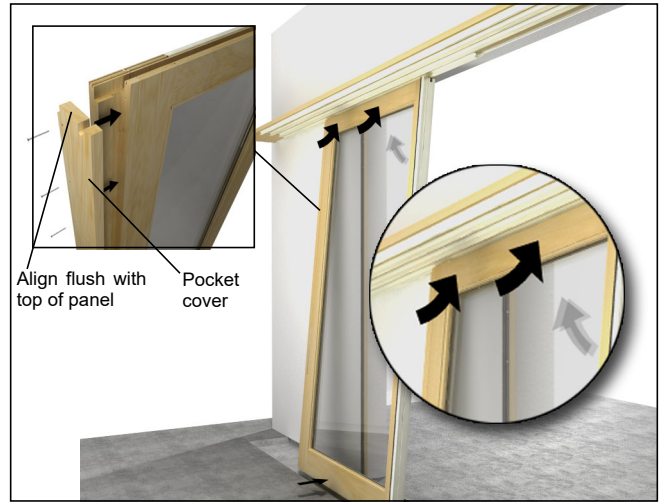

Figure 46
7. For pocket units install the panel that engages with the pocket interlock first. Tilt top into place and slide bottom of panel onto center of track. Engage operating hardware and test door panel to see if the rollers are on the track. Install pocket cover with #7x2" screws. See figure 46.